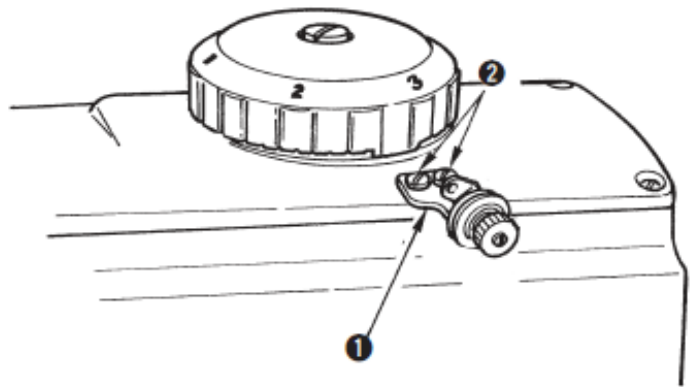

Figure 12
1. Attach bobbin winder thread guide 1 to the top cover using screws (Fig 12, Item 2). Pay close attention to the two screws. They are used to adjust the bobbin winding (see below)